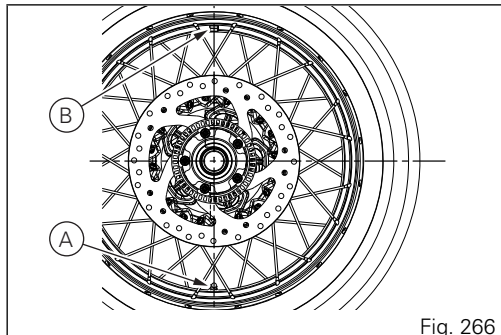

Fig. 266
Position counter-weights (B) on the rim in line with valve (A), as indicated in (Fig. 266).